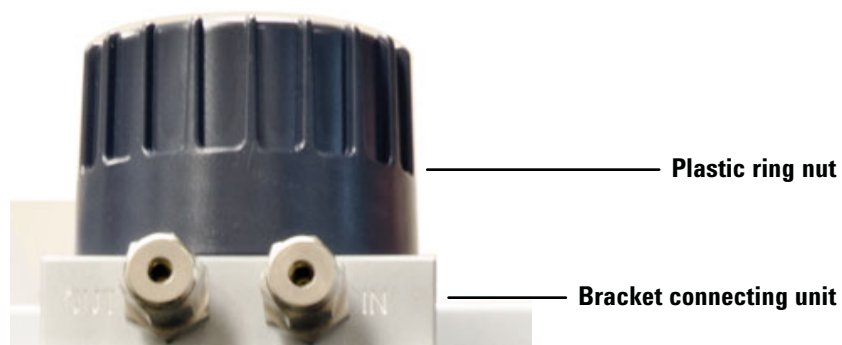

Figure 30. Remove the plastic ring nut from the bracket connecting unit
- 2 Unscrew and remove the plastic ring nut from the top of the bracket connecting unit (**Figure 30**).